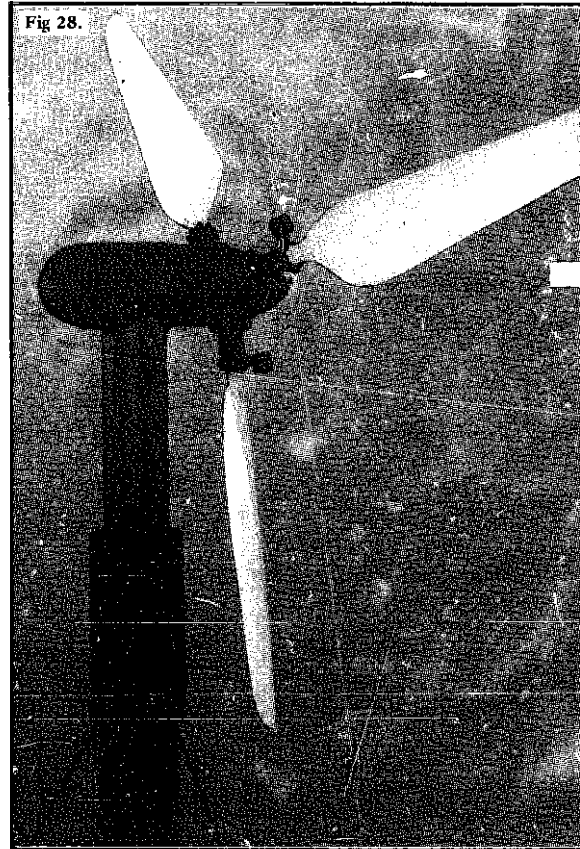

Fig 28.
b) If the blades are angled to point slightly downwind of the mast or tower, the wind pressure on them makes the machine self-orientating. This principle is used in two of the wind generators designed by Windworks, and on the wind generators and wind pumps produced by Lubing (see Fig 28).